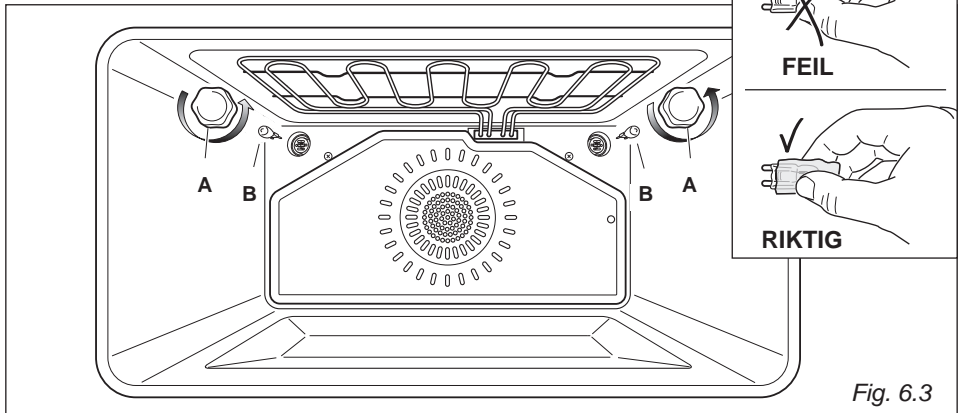

Fig. 6.3
- Demonter lampedekselet "A" (Fig. 6.3).